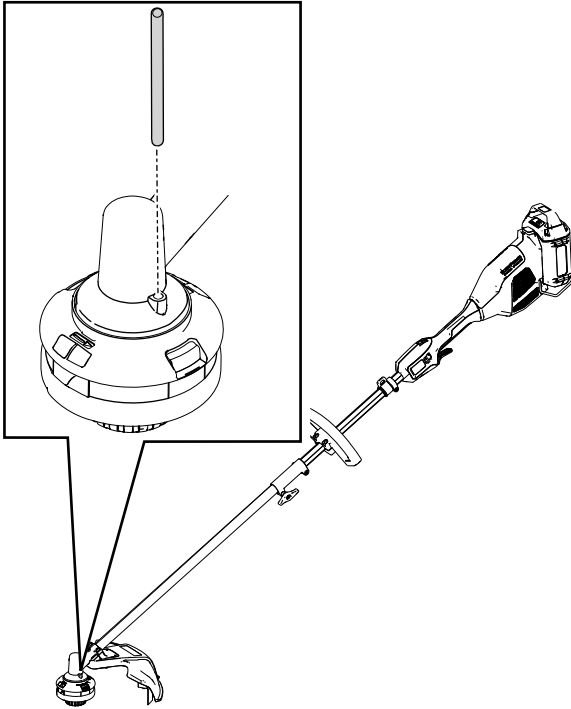

Figure 13
2. Insert a small-diameter tool (such as a screwdriver) through the motor housing and into the groove in the fan to secure the trimmer head so it does not freely rotate (Figure 13).